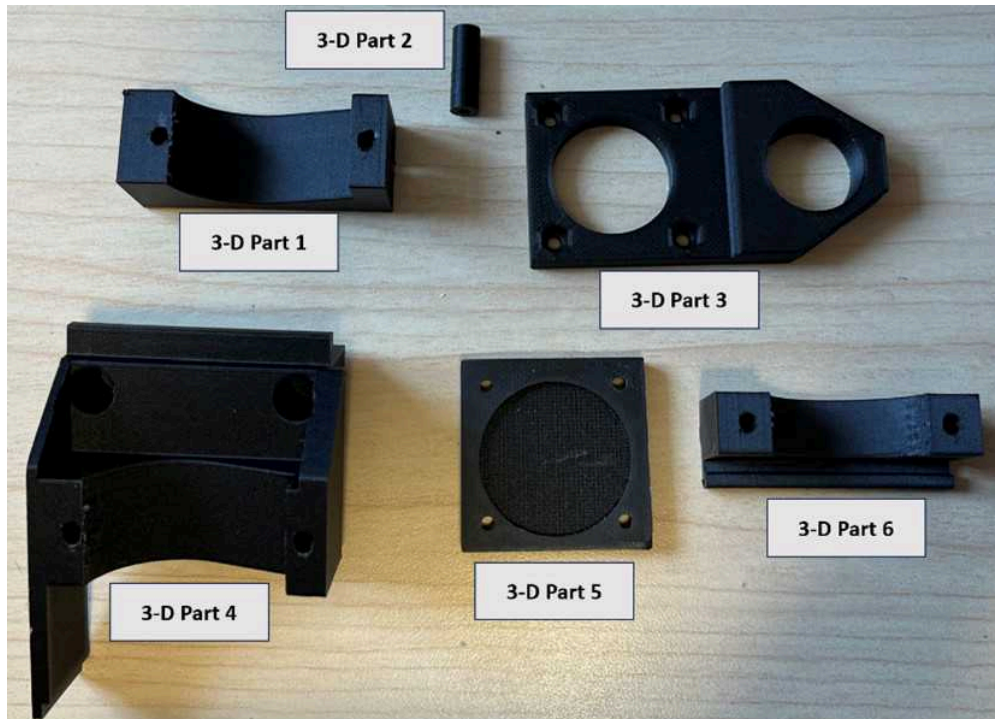

Figure 10. 3-D printed parts for the syringe installation on the actuator
- 14.2 Slide 3-D print part #3 (Figures 10, 11) onto the plunger with the ledge facing towards the plunger flange.
- 14.4 Attach 3-D printed part #5 (Figure 10) onto the plunger flange (Figures 11, 12). Ensure the circular flange fits into part #5.